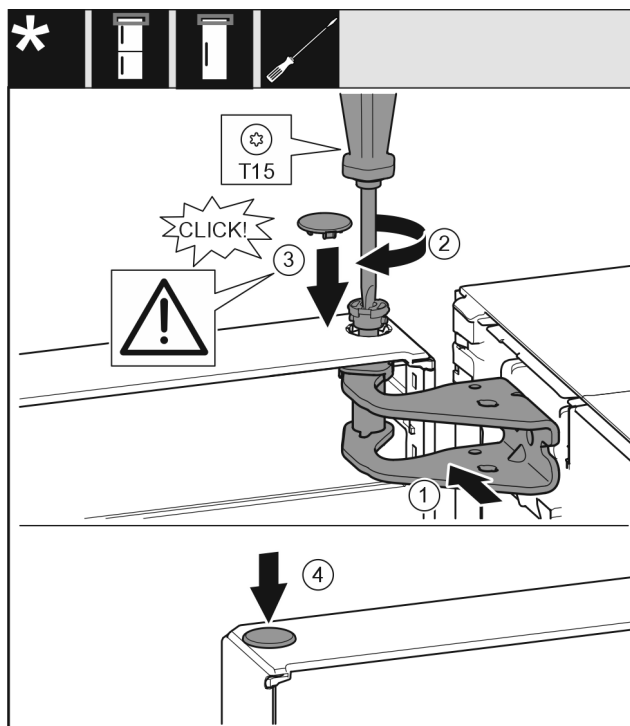

Fig. 20
- Align the top door with the opening in the swap bearing block Fig. 20 (1).
- Insert the bolt Fig. 20 (2) and use screwdriver to tighten it.
- Insert the cover Fig. 20 (3).
- Check that the cover Fig. 20 (3) is resting on the door.
- Insert the cover Fig. 20 (4).